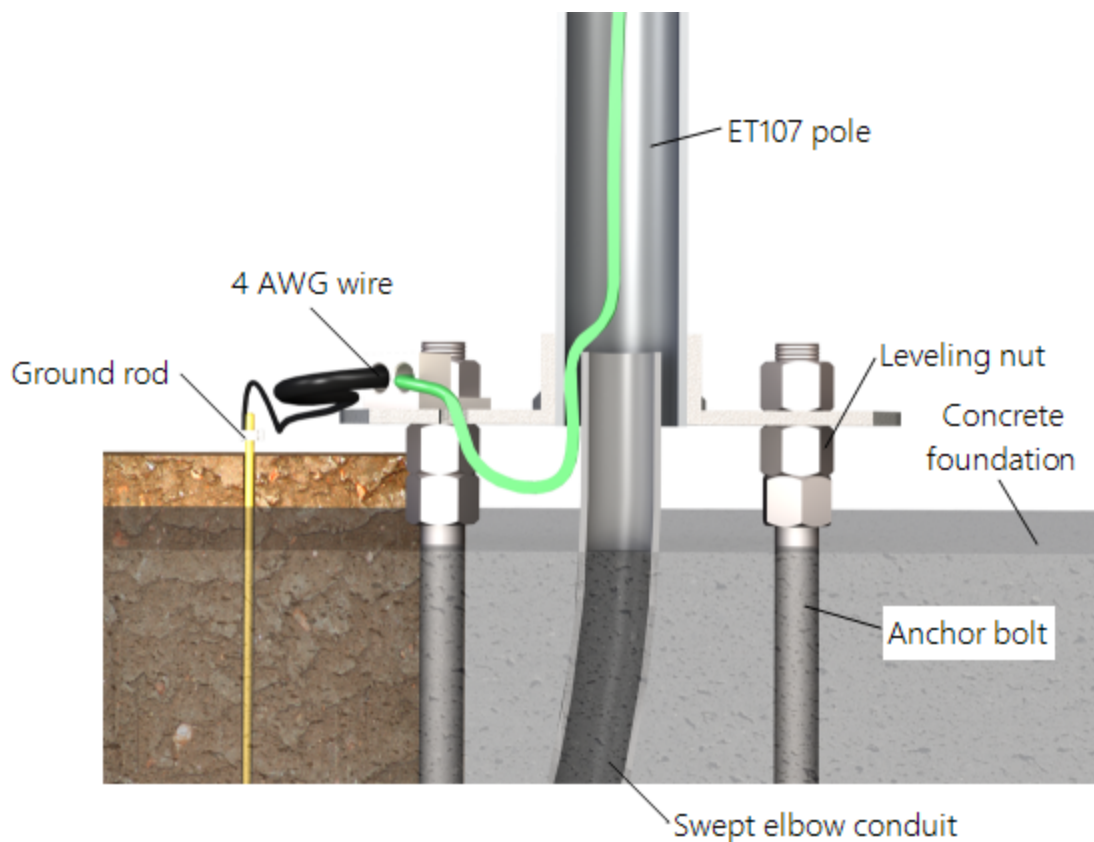
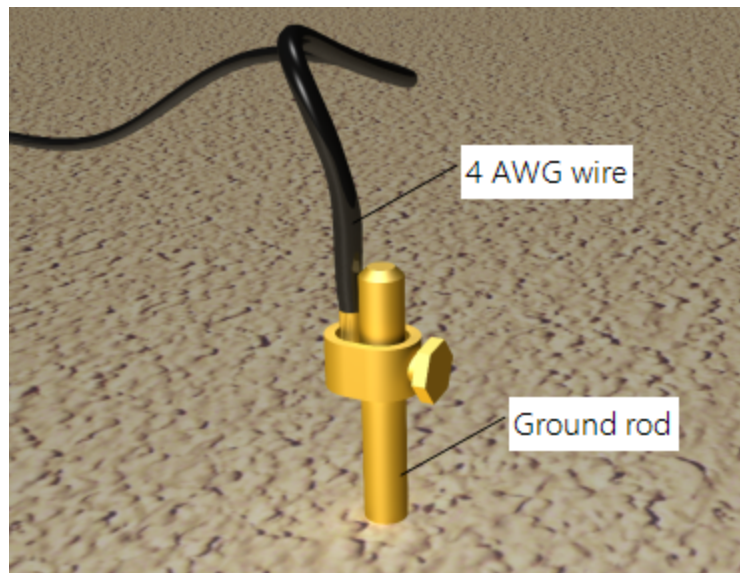

FIGURE 6-4. Transparent view shows raising and grounding the ET107 pole
FIGURE 6-5. Close-up of ground rod and 4 AWG cable
Use the following procedure to attach the pole to the base (FIGURE 6-4 (p. 17)).
Use the following procedure to ground the pole (FIGURE 6-4 (p. 17) and FIGURE 6-5 (p. 19)).
6. Tighten the set screw (FIGURE 6-5 (p. 19)).
7. Loosen the ground rod clamp. Insert the 4 AWG wire. Tighten the clamp (FIGURE 6-5 (p. 19)).